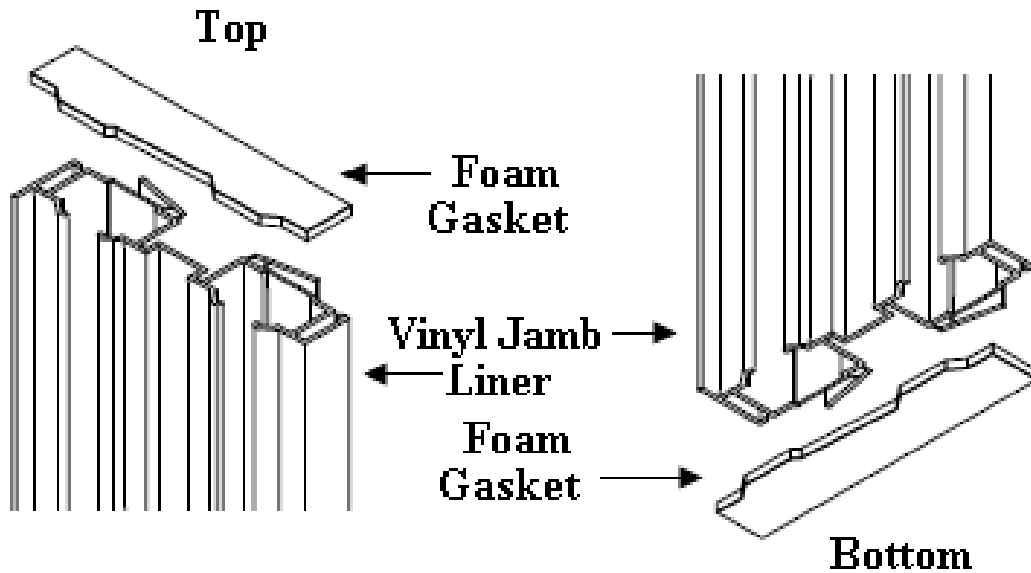

Figure 5
5. Place foam gasket at the top and bottom of each vinyl jamb liner, see figure 5.